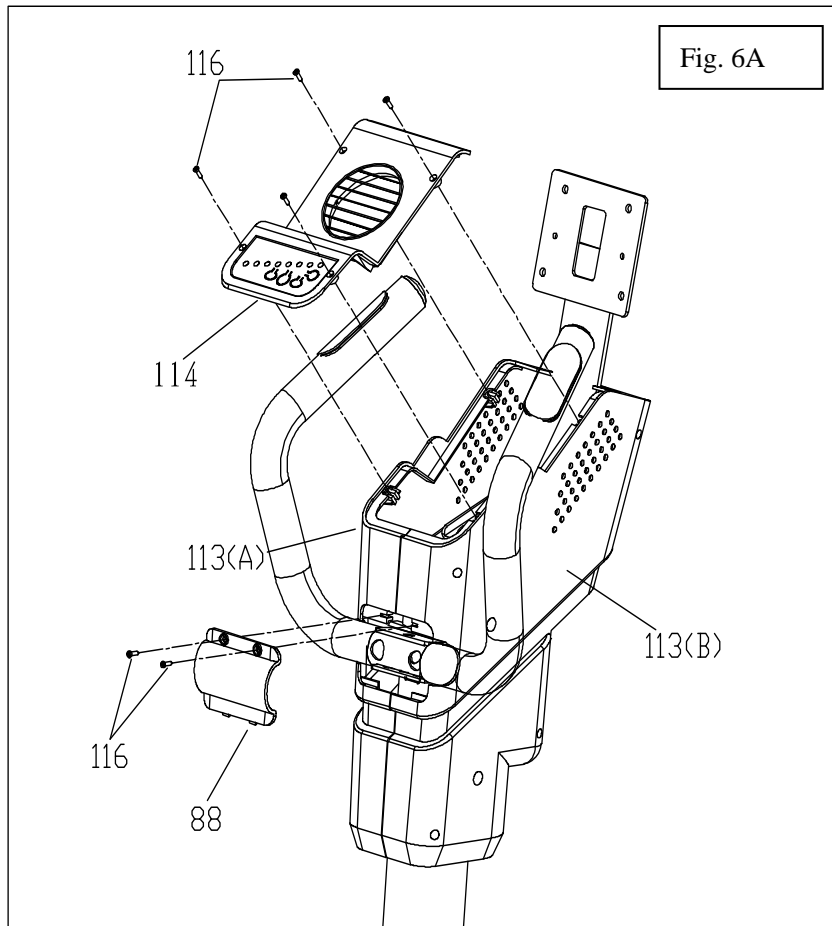
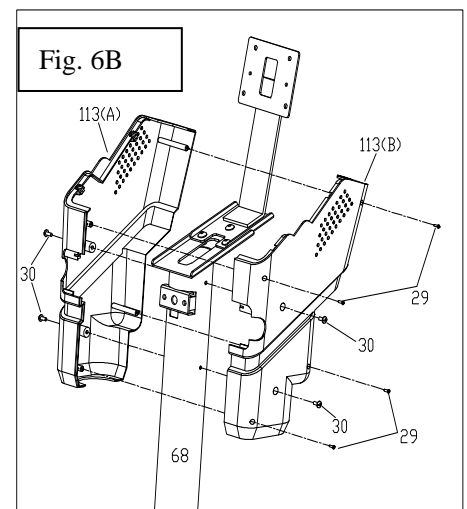

Fig. 6A
Fig. 6B
- (A) Place the fan cover #114 in-between the #113A and #113B covers (See Fig.6A).
- (B) Take the fan wire and route it with the other wires from the handrail assembly
- (C) Secure the fan cover #114 by using 4 x #116 screws.
- (D) Attach the Handlebar cover #88 and secure by using 2 x #116 screws.
- Fully tighten all screws for covers #88, #114, #113A and 113B (See Fig.6B)